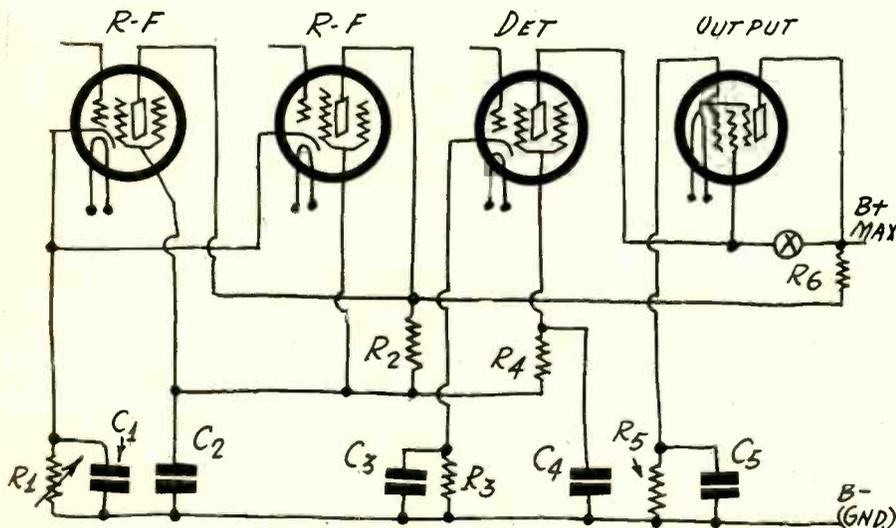

FIG. 1
The trouble may be traced down to too much economy and too little bypassing. Let us see what the fundamental voltage circuit of the midget receiver is. Fig. 1 portrays that, with plate and grid loads omitted for clarity of the fundamentals.
While the bias is obtained, in Fig. 1, through the drop in a plain resistor, in fact the 300 ohm value may be part of the winding of the B supply choke, which then would be in the negative leg, but then the choke should be considered as a resistor alone, and the same value of bypass capacity included as of it were not a choke but just a simple resistor.
If the proper type of output transformer is used, the voltage drop may be high, because the pentode requires a much higher output impedance as its load than does the 245. The solution would be to put a resistor at point (X) in Fig. 1, to equalize the voltages. If the resistor is large, bypass it, because the feedback through it is negative.